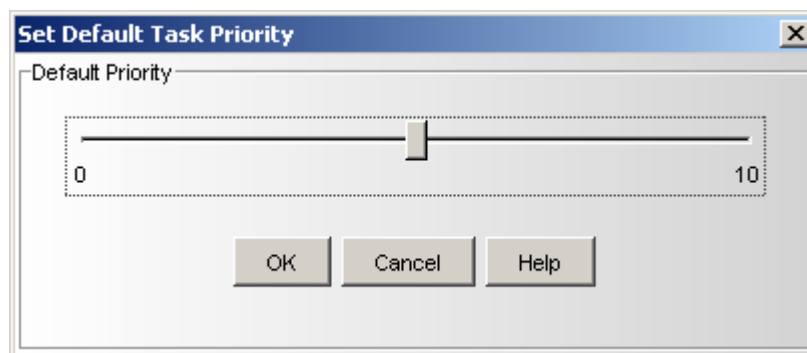

Figure 5-40. Set Default Task Priority Dialog Box
1. On the **File** menu, click **Set Default Task Priority**. The Set Default Task Priority dialog box appears, with the current setting shown (see Figure 5-40).